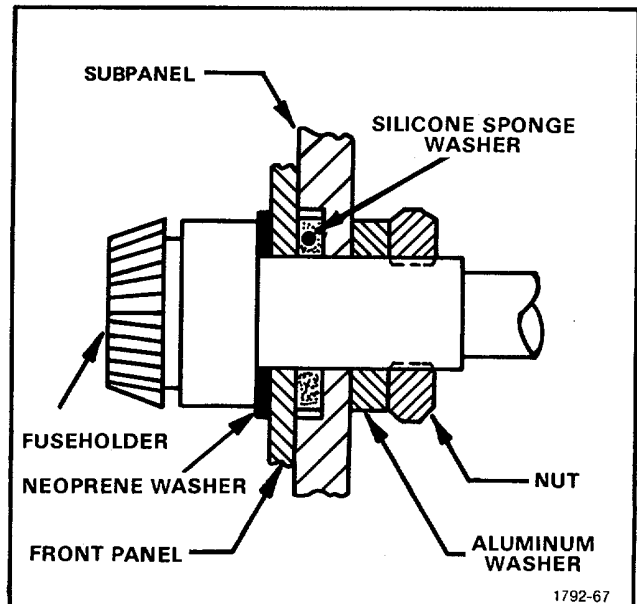

Figure 5-13. Detail of Fuseholder installation.
14. Install Fuseholders In Front Panel (see Fig. 5-13)
1. Install the two Fuseholders as shown in Fig. 5-13.